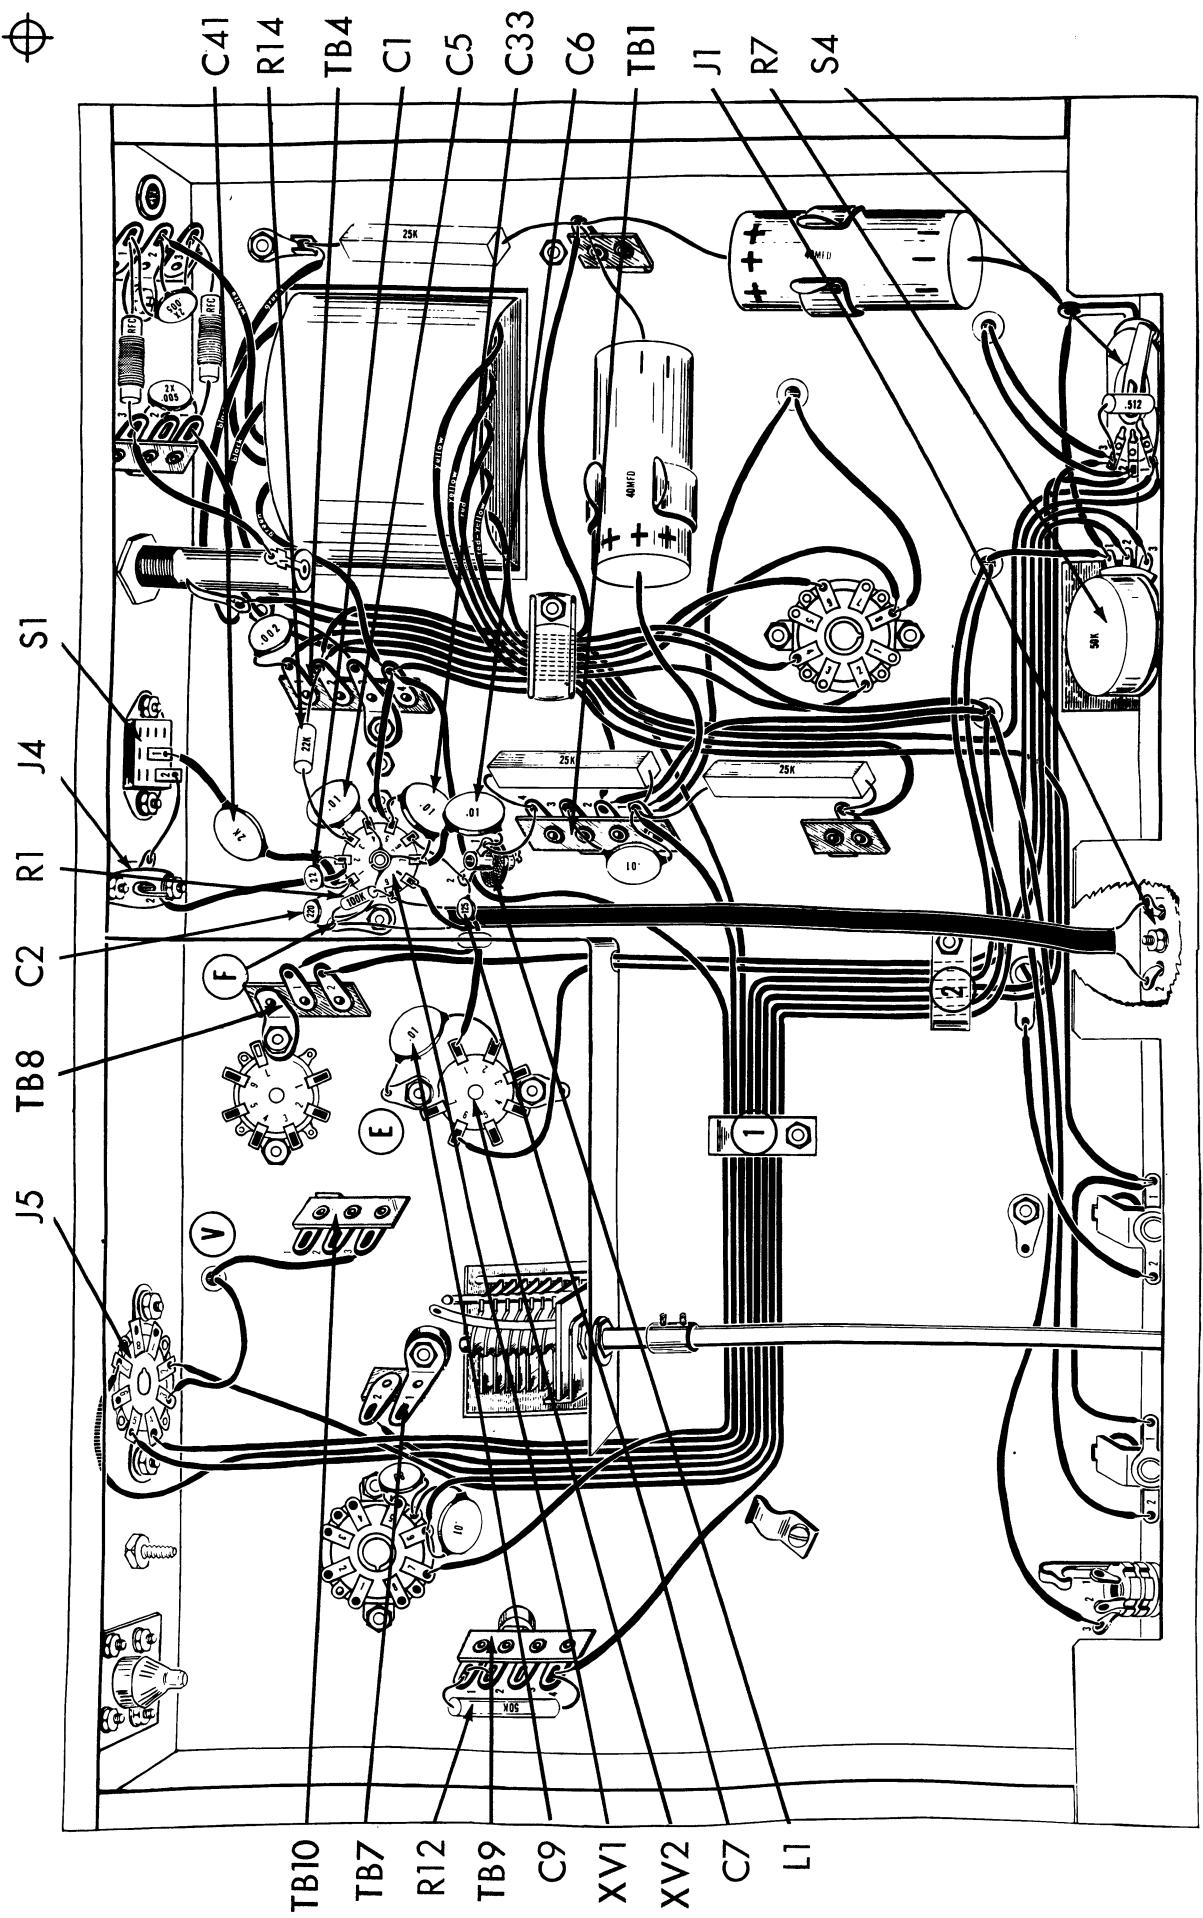

Fig. 6
2. (✓) Fig. 1A. Snap in the pi choke, L1, Stock #36014, as shown. Note direction in Fig. 6. Push the metal coil form bracket into the hole until the two small slips catch on top of the chassis.
- Fig. 6. L1 is an 18 microhenry choke with a slug adjustment, previously mounted on the chassis next to XV1. The form holding the choke coil should be so oriented that one lug is close to TB1 and the second lug is close to pin 6 of XV1. Designate the lug near TB1 as L1-1 and the lug near XV1 as L1-2. Connect a 3/4" piece of bare wire from TB1-4 (S2) to L1-1 (C). Connect a second 3/4" piece of bare wire from L1-2 (C) to XV1-6 (S).
- Fig. 6. Cut both leads on a .01 mfd (10K or 10,000 mmf) disc capacitor, C9, to 3/4". Cover each lead with a 1/2" piece of spaghetti. Connect from XV2-2 (C) to ground lug "E" (C).
- Fig. 6. Prepare a piece of 300 ohm twin line wire as follows. Cut an 8 1/2" piece of the dual wire. On one end, cut out the insulation for a 1 1/4" length between the two conductors, without removing the insulation from around the conductor. Then strip back the insulation 1/4" from the end of one of these conductors and connect this to ground lug "F" (C). On the same end of the wire, cut the second conductor to a 3/4" length and strip the insulation back 1/4". Connect this to XV1-9 (C). On the other end of the same piece of dual wire, cut out the insulation for a 3/4" length between the two conductors without removing the insulation from around the conductor. Strip back the insulation 1/4" from the ends of both of these conductors. Without twisting the twin line, connect one of these conductors to J1-1 (S1) and the second conductor to J1-2 (S1). DO NOT apply excess heat or insulation will melt.
- Fig. 6. Cut one lead on a 125mmf disc capacitor, C7, to 1/2". Connect this end to L1-2 (S2). Cut the other lead to 1 3/4". Cover this lead with a 1 1/2" piece of spaghetti. Push this lead through the hole in the side of the bottom shield and connect to XV2-1 (C).
- Fig. 6. Cut all leads on two .01 mfd (10K or 10,000 mmf) disc capacitors, C5 and C33, to 1/2". Connect one from XV1-3 (C) to XV1-4 (C). Connect the second from XV1-5 (C) to XV1-7 (C).
- Fig. 6. Cut both leads on a .01 mfd (10K or 10,000 mmf) disc capacitor, C6, to 3/4". Connect one lead to L1-1 (S2). Cover the second lead with a 1/2" piece of spaghetti and connect to XV1-7 (C).
- Fig. 6. Connect a 1 1/2" piece of green wire from TB4-4 (S4) to XV1-5 (S2).
- Fig. 6. Cut both leads on a 22KΩ (red, red, orange, silver) 1 watt resistor, R14, to 3/4". Connect from TB4-2 (S3) to XV1-3 (S2).